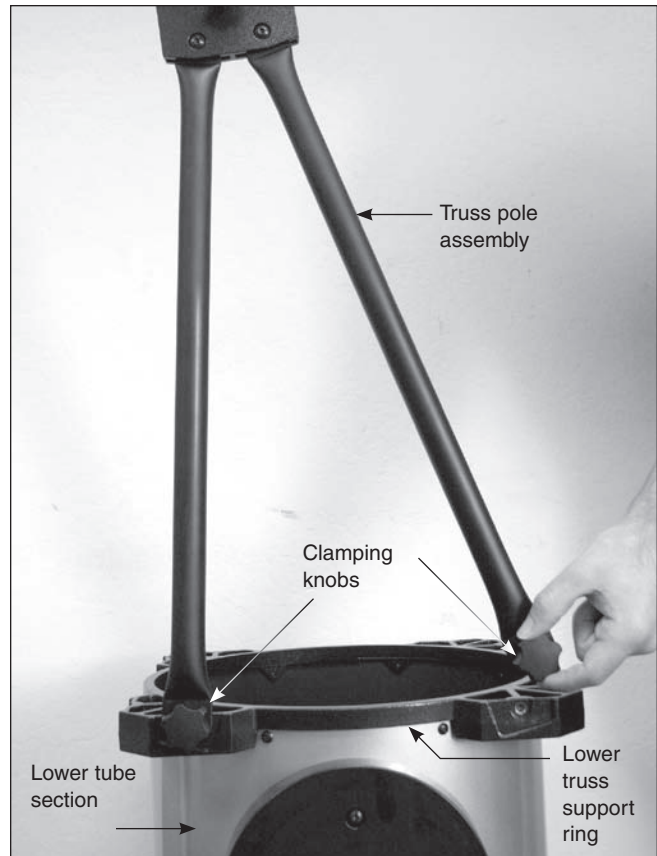

Figure 18. The clamping knobs on the ends of the truss pole assemblies thread into the holes in the lower truss support ring on the lower tube section.
7. Now, connect the eight captive clamping knobs on the ends of the pole assemblies to the lower truss support ring on the lower optical tube section (**Figure 18**). This is done by simply threading the knobs into the holes in the ring. Do not completely tighten the knobs just yet.